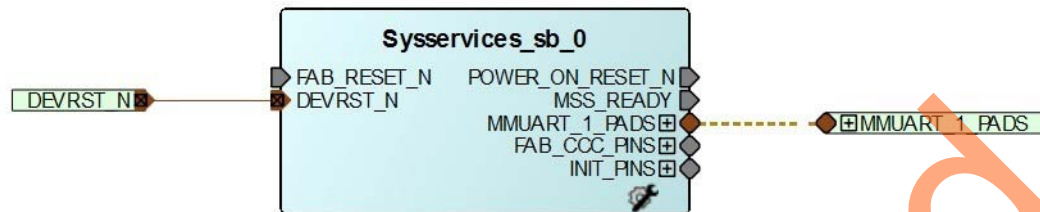

Figure 11 • Updating Sysservices\_sb\_0
19. Select **File > Save** to save **Sysservices\_sb\_0**. Select the **Sysservices** tab on the Smart Design canvas, as shown in Figure 11.